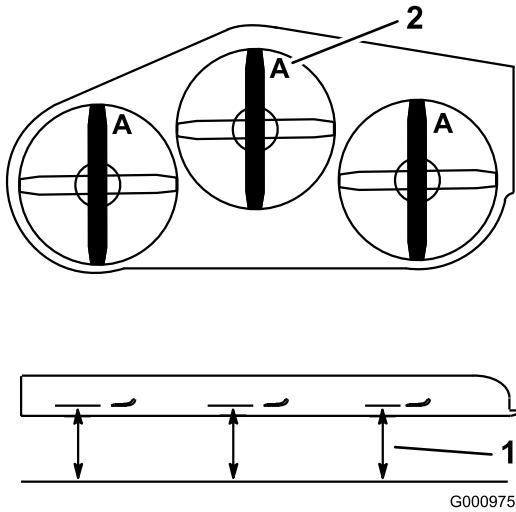

Figure 78
2. Measure from a level surface to the cutting edge, position **A**, of the blades (Figure 78).